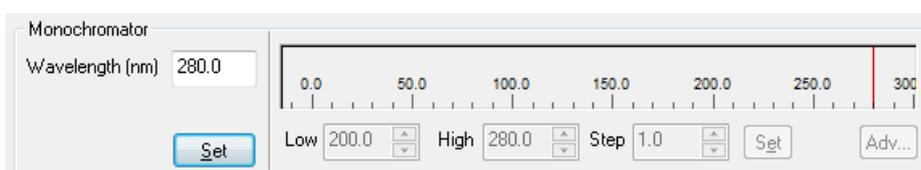

Figure 2.11: the Monochromator panel for absorbance kinetics
3) On the **Monochromator** panel (Figure 2.11) enter the selected wavelength.